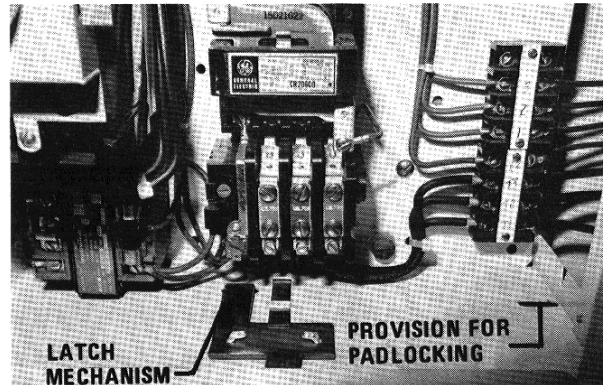

Figure 17.
5. The unit may be padlocked in the intermediate withdrawn position, with stabs disengaged from the vertical bus, for inspection of the unit in place. (Figure 17)